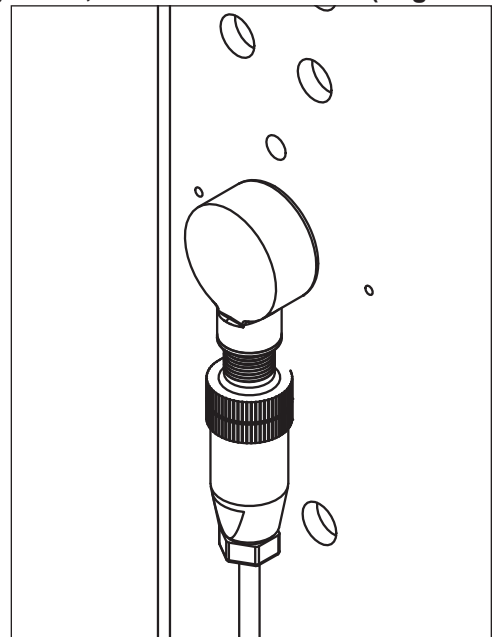

Figure 8
2. Using included nuts and bolts, attach mounting bracket to highlighted holes in Figure 8 at 6" height, 24" height, or both as required by install. See Figures 12 and 13 for example. Reference CPS-RPEN4 Installation Manual for orientation of sensors when more than one pair is installed.